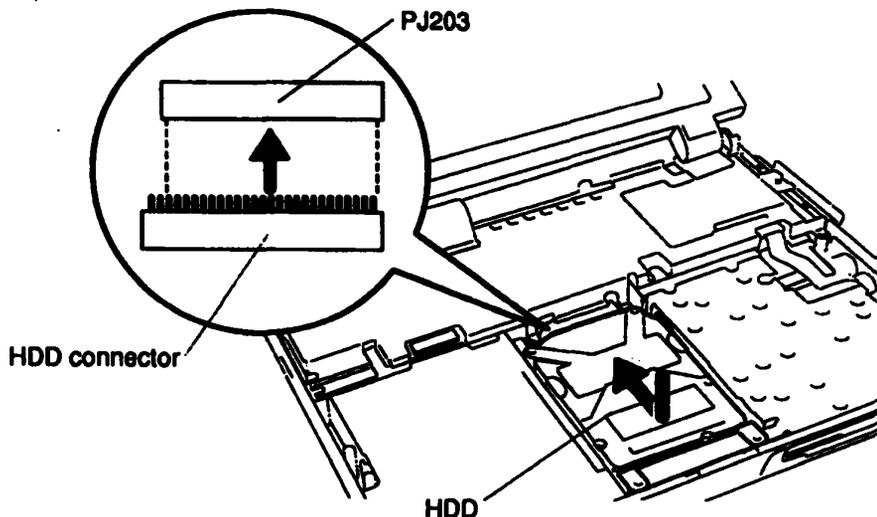

*Figure 4-12 Removing the Bracket from the HDD*
9. Remove the **four flat-head M3x4 screws** securing the bracket to the HDD and slip off the bracket (Figure 4-12).
1. Secure the **bracket** with the **four flat-head M3x4 screws** (Figure 4-12).